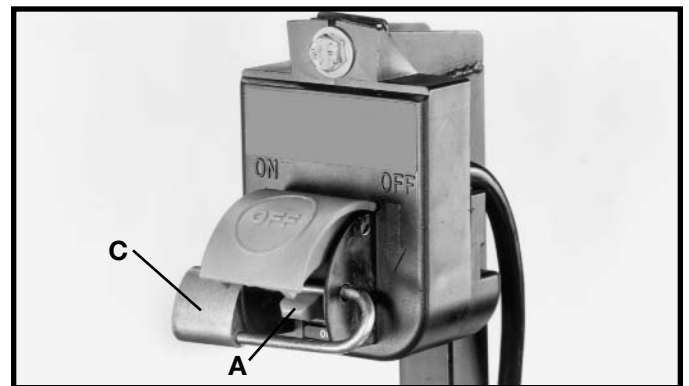

Fig. 33
IMPORTANT: When the tool is not in use, the switch should be locked in the “OFF” position to prevent unauthorized use. Insert the shank of padlock (C) Fig. 33, through the holes in the shank of padlock (C) Fig. 33, through the holes in the switch plate to lock the on/off switch trigger (A).